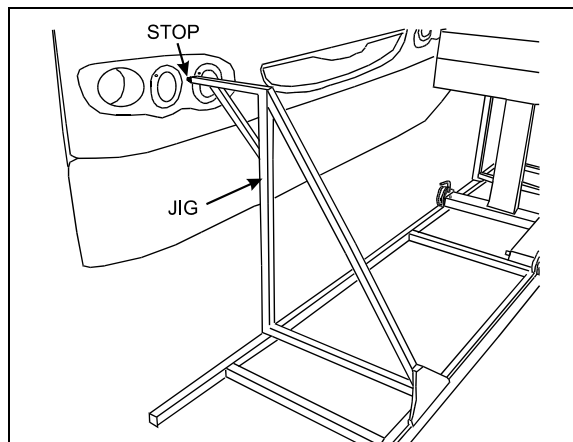

FIGURE 26: INSTALLATION OF JIGS
3. Install jigs #29263 and #29262 onto the support rail. Position the support rail so that both stops are centered between the two beams (Fig. 26). Mark the position for future reference.